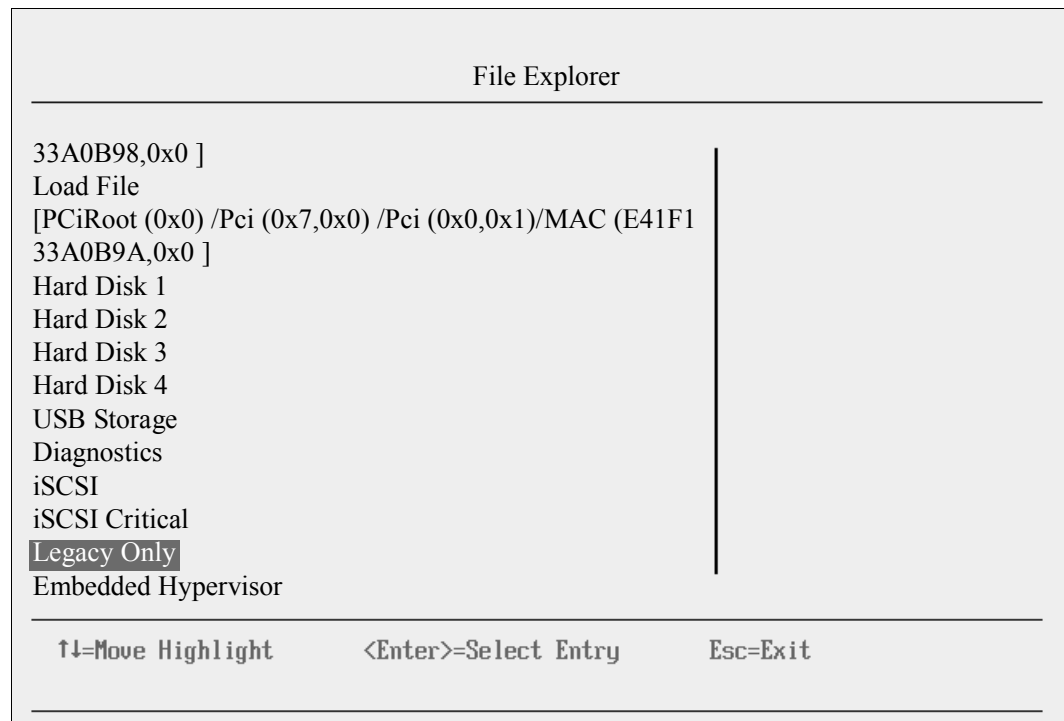

Figure 9-174 File Explorer panel
4. In the File Explorer panel (Figure 9-174), highlight **Legacy Only**, and then press Enter.